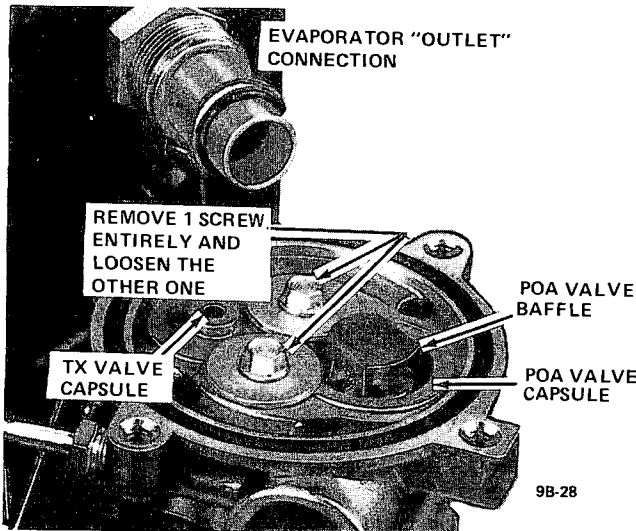

Figure 9B-17 VIR Assembly with Inlet Connector Shell Assembly Removed
5. Loosen the TX valve and POA valve capsule retaining screws and remove one of the screw and washer assemblies entirely. See Figure 9B-17.
6. Attach the TX valve removal tool J-24182-1 to the tapered groove projection on the diaphragm end of the TX valve. See Figure 9B-18.